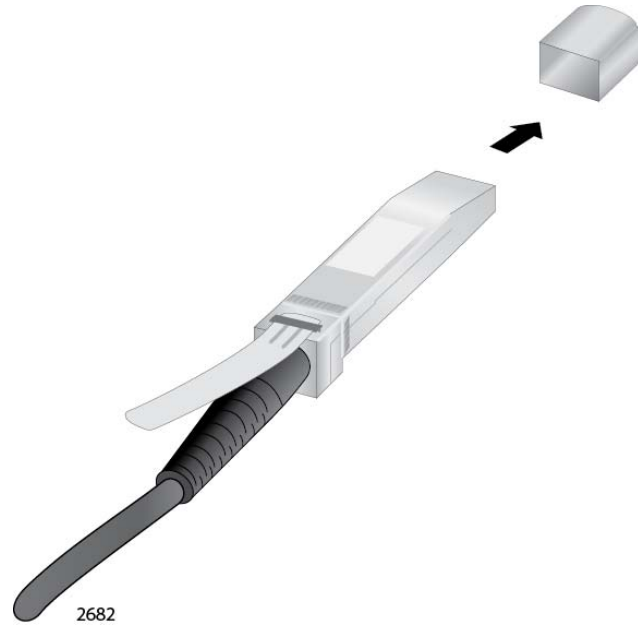

Figure 50. Removing the Dust Cover from a Direct Attach Cable
3. Remove the dust cap from one end of the transceiver, as shown in Figure 50 on page 95.